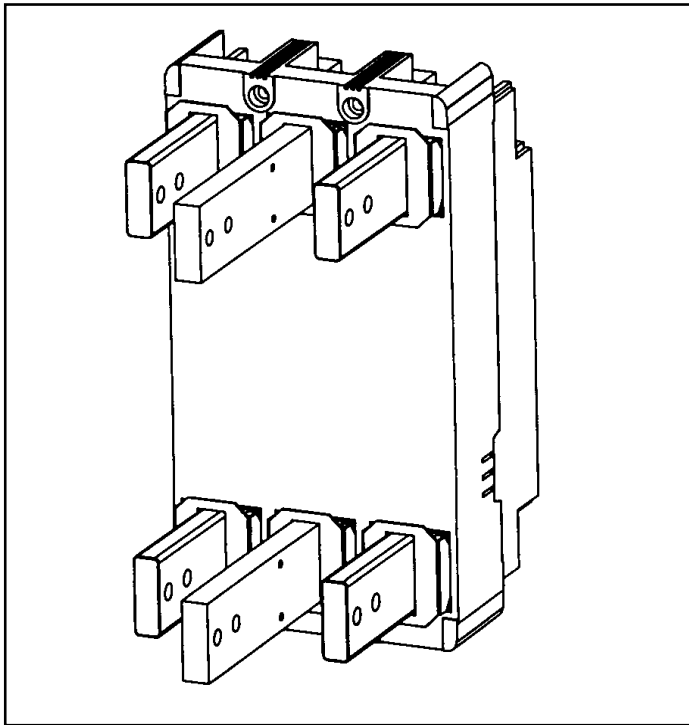

Figure 2-4. 1600 Amp Rear Connectors and Barriers Installed (Required for 1600 Amp Rear Connect Breakers and Molded Case Switches).
- c. Install the barriers, covering the ends of the hardware and connectors. Position the barriers so that the flaps are firmly set between the connectors and the edge of the base molding, (figure 2-4).